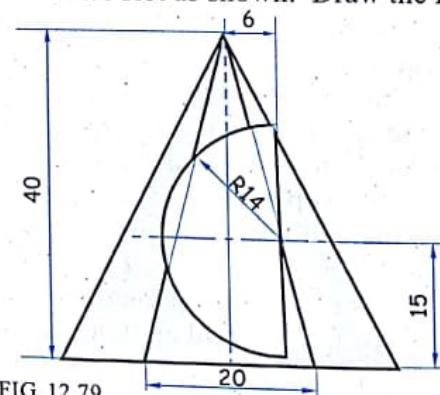

FIG. 12.79
42. Figure 12.79 given below shows the F.V. of a pentagonal pyramid with side of base 20 mm parallel to V.P. and axis length 40 mm. It has a semicircular slot as shown. Draw the D.L.S.